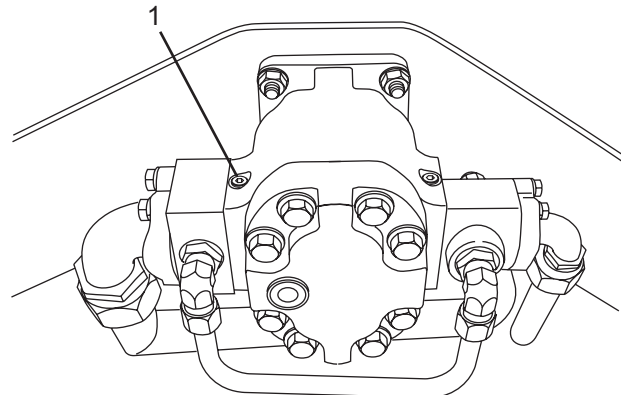

Figure 49
- a. The O-Ring plug (Figure 49, Item 1) located in the center section on the inlet side of the pump, if equipped, or